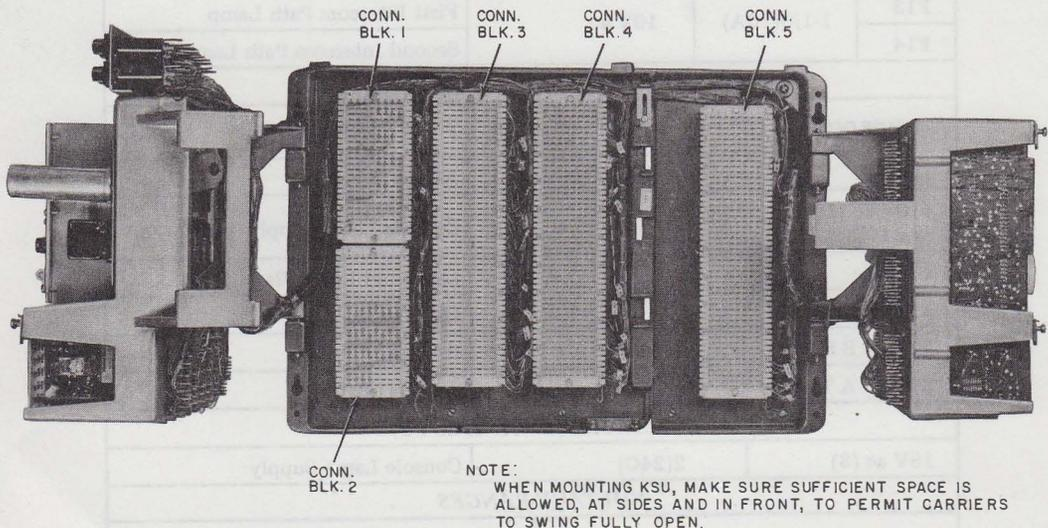

Fig. 2—570A KSU (Carriers Open)
- 2.04** All wiring connections are made on connecting blocks located in the KSU (Fig. 2). Since all stations pick up all lines on the same button at each telephone set, all equipment connections are factory-wired to the connecting blocks.